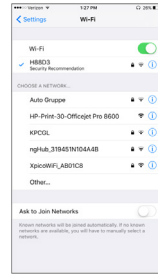

Figure 6: Available Wi-Fi networks
2. Search for available Wi-Fi networks. See Figure 6.